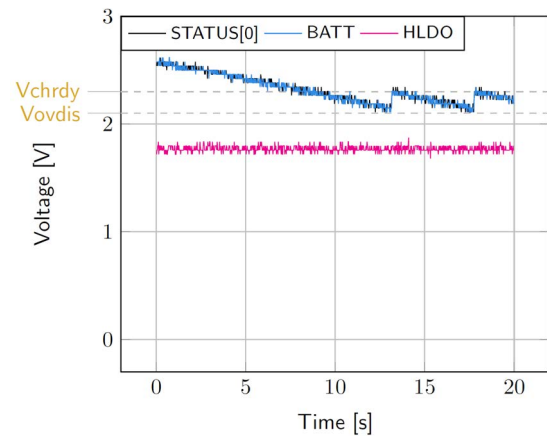

Figure 5: Switching from **SRC** to the primary battery
- **BATT**: Voltage decreases as the system consumes the power accumulated in the storage element. The voltage reaches  $V_{OVDIS}$  and then rises again to  $V_{CHRDY}$  as it is recharged from the primary battery (see Figure 5).
- **STATUS[0]**: Never de-asserted as the LDOs are still functional (see Figure 5).
- **HVOUT**: Stable and not affected by switching on the primary battery (see Figure 5).